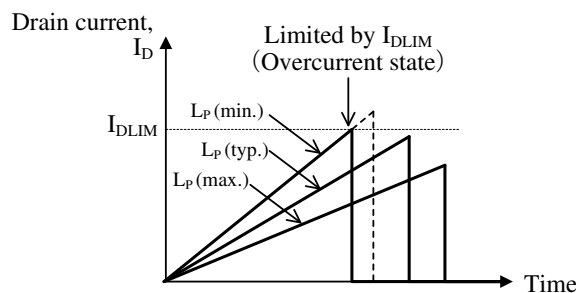

Figure 13-2 Relation between L_p and drain current I_D
- 2) The peak value of drain current I_D in normal operation is determined by L_p value. Since the slope of I_D is expressed as V_{DS}/L_p , the smaller the L_p value, the steeper the slope of I_D becomes. Thus the peak value of drain current becomes high as shown in Figure 13-2. The IC limits the peak current by drain current limit I_{DLIM} (Overcurrent state). If L_p value becomes small by variation, there is the case that the system is in overcurrent state. Then the designed output power cannot be achieved. Thus the L_p value should be determined after the confirmation in actual operation using minimum L_p value within the variation, where the peak current value should be less than $I_{DLIM}(\text{MIN})$ in minimum input voltage of power supply.